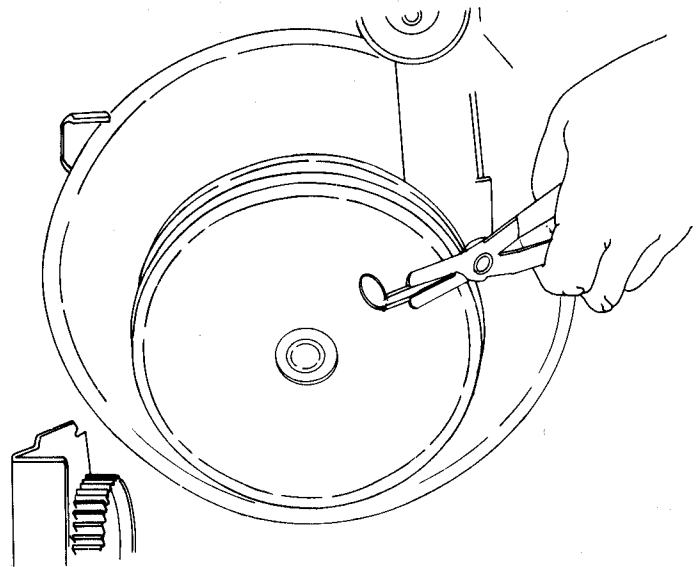

FIGURE 3.7 — REMOVING DRIVE PLATE RETAINER
STEP 1. Use a pair of snap ring pliers to remove the retaining ring and washer on the drive plate end of the impeller shaft. Slide the drive plate off the end of the shaft (figure 3.7 and 3.8). The drive plate bushings can now be replaced if necessary.